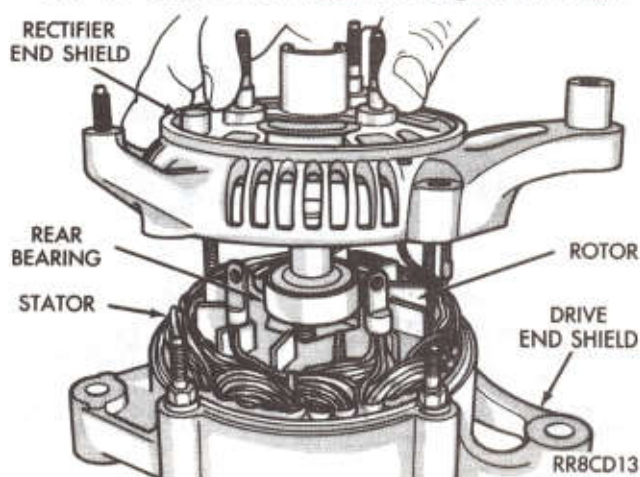

Fig. 12—Separate End Shields
(7) With the drive pulley in a downward position, tap upward on the rectifier end shield and separate the two end shields (Fig. 12).